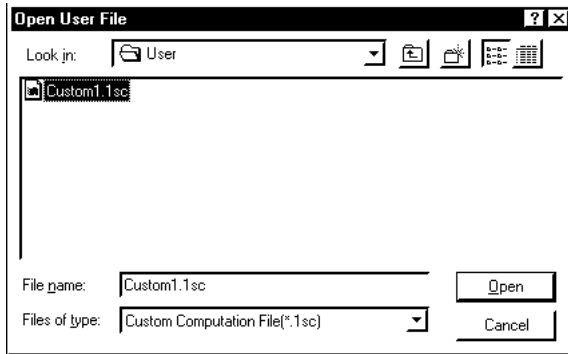

Figure 4.1.4 [Open User File] Dialog Box
- ≠ If you are configuring a custom computation using a user file, choose <Open User File>. Click the <Open User File> option button, and then the <OK> button. The [Open User File] dialog box (Figure 4.1.4) appears.